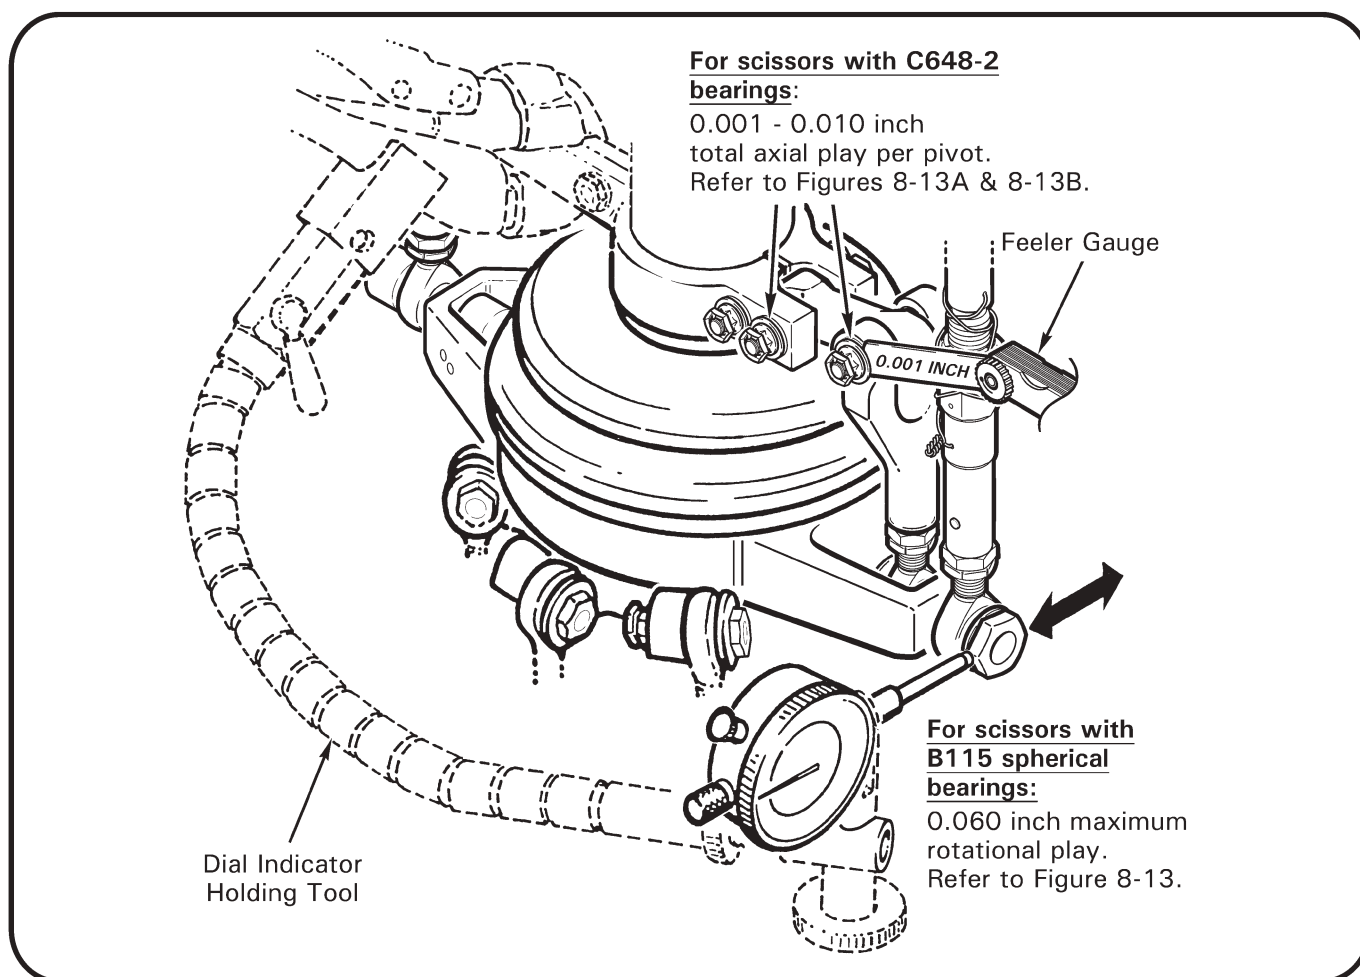

FIGURE 2-9 MEASURING UPPER SWASHPLATE ROTATIONAL PLAY
**Swashplate Upper Scissors:** Inspect condition. Inspect rod ends and spherical bearings per § 2.120. Measure scissors play per Figure 2-9. Observe scissor linkage while having someone raise and lower collective. Verify bolt, journals (or spherical bearing balls and spacers), and arm rotate together at each scissor linkage pivot. Verify operating clearance. \_\_\_\_\_